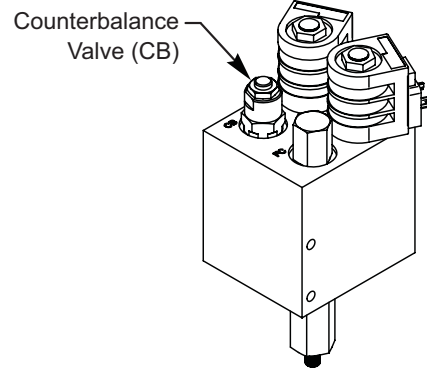

FIGURE 12 - COUNTERBALANCE VALVE
- b. If the platform continues to move downward, raise the platform and engage the Maintenance Pin. See page 6. Loosen the lock nut on counterbalance valve while holding adjusting screw with a hex key wrench. See figure 12. Rotate the adjustment screw 1/8 of a turn clockwise. Tighten locknut while holding adjustment screw. Disengage Maintenance Pin and verify step #1A performance. If ok, proceed to step 2. If not, repeat step #1B.
- c. If the platform does not easily break and lower to below dock level, raise platform and engage the Maintenance Pin. See page 6. Loosen the lock nut on the counterbalance valve while holding the adjusting screw with a hex key wrench. See figure 12. Rotate the adjustment screw 1/16 of a turn counterclockwise. Tighten locknut while holding the adjusting screw. Disengage Maintenance Pin and verify that both steps #1 and #2 have been met. Repeat if necessary.